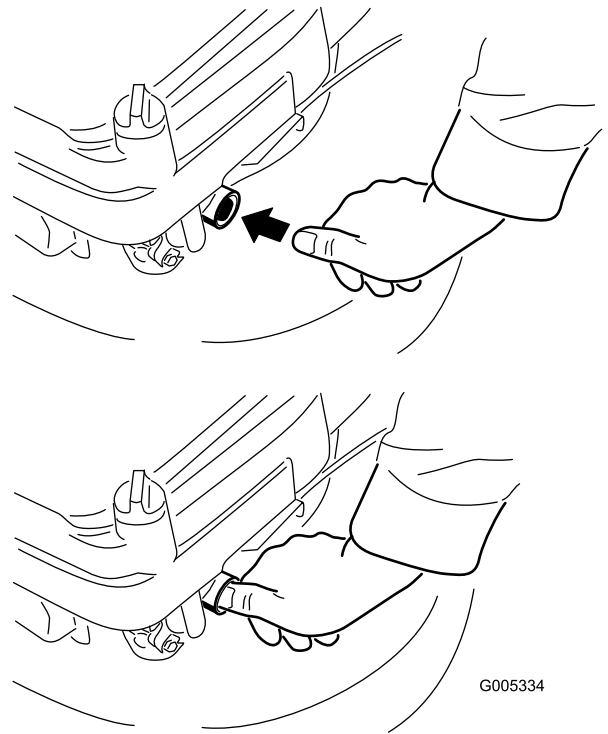

Figure 14
- 2. Firmly push in the primer once with your thumb (Figure 14).